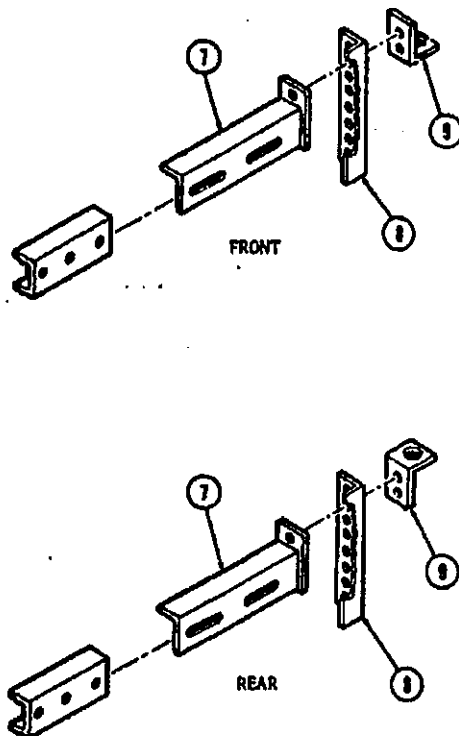

FIGURE 5. END ADJUSTMENT BRACKET
12. (6000H) Install the hull support pads (13), to the tops of the columns, with the long ends to the rear and the long angles toward the center of the hoist. Attach each with two $1/2$ x $5\ 1/2$ bolts, nuts, and lockwashers. Tighten snug.
13. (6000H) Install a brace (14) between the rear of each pad (13) and hull support column (12). Attach to column (12) with $1/2$ x $1\ 1/2$ bolts, nuts, and lockwasher, and to pad (13) with $1/2$ x $5\ 1/2$ bolt, nut, and lockwasher. Tighten $1/2$ x $5\ 1/2$ snug.
15. (4000H) Install transom pads (6) to the rear side of the rear end channels (3 & 4). Pads should be installed with the long brace leg toward the outside of the hoist. Position pads approximately 33 to 39 inches apart, but they may have to be moved later. Attach the pads with 1/2 x 3 bolts, nuts, flat washers, and lockwashers. Tighten to approximately 75 ft. lb. torque.
16. (ALL) Install an end adjustment bracket (7) on the end of each end channel (3 & 4). (See Figure 5.) Attach each with two 1/2 x 1 1/2 bolts, nuts, lockwashers, and flatwashers. Install so that the angle of the adjustment bracket (7) overlaps the end channel. Install the bolts in the first and third holes of the end channel with the flat washers on the slots of the adjustment bracket. Tighten finger tight.
17. (ALL) Install a vertical adapter angle (8) to each end adjustment bracket (7). (See Figure 5.) The vertical location of the adapter angle is dependent on the height of the dock and may therefore have to be moved during installation.
18. (ALL) Install a guide rod retainer angle (9) to each vertical adapter angle (8). (See Figure 5.) Notice that the front retainer angles (9) are installed opposite to the rear. These parts also may need to be moved during installation.
21. (ALL) Wrap the hoses loosely around the Vee bracket (5) and place the blower assembly on the Vee bracket. Secure blower with a short line.